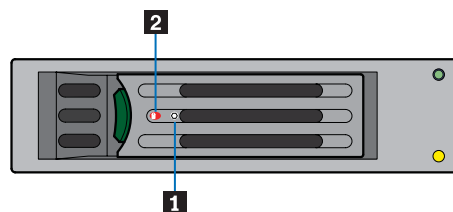

Figure 19. Activating an anti-tamper lock
1. Carefully insert the TORX screwdriver provided into the cutout in the handle (see **1** in Figure 19).
2. Rotate the screwdriver in a clockwise direction until the lock symbol is visible in the opening beside the key (see **2** in Figure 19).